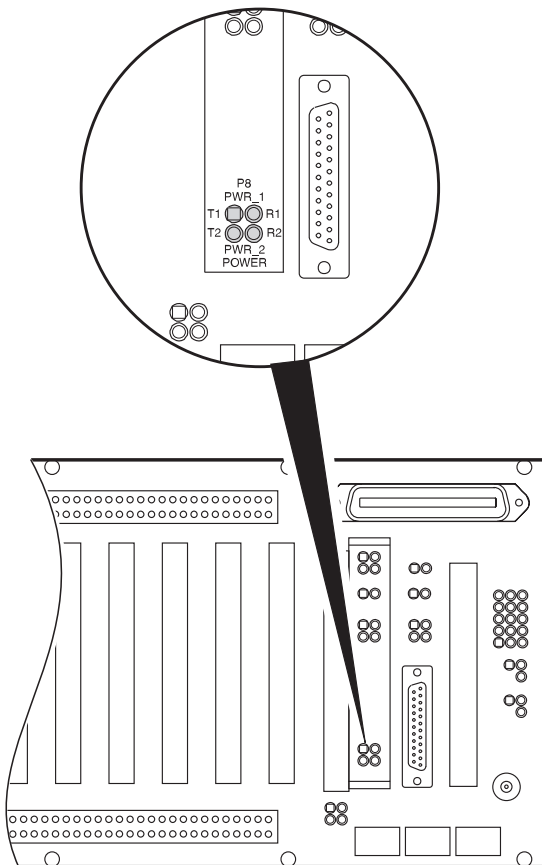

Figure 10. Wiring the Auxiliary Power Pairs
8.8 Auxiliary Power Pairs. When PG-Flex is used with a doubler, wire auxiliary power pairs to the COT shelf (Figure 10) as follows: